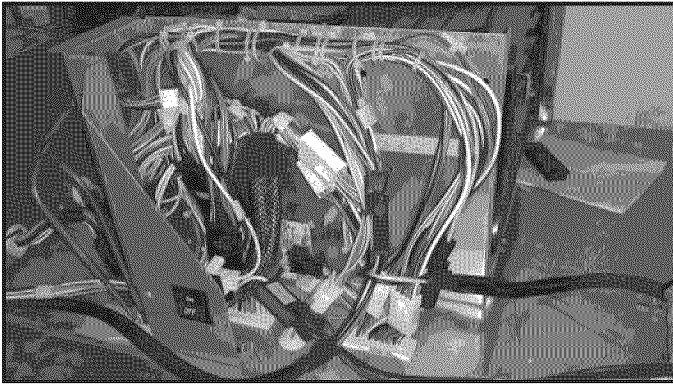

FIGURE 21
26. Reconnect the 4 wire connectors disconnected to make room to route the harness in step 23. See *Figure 21*.